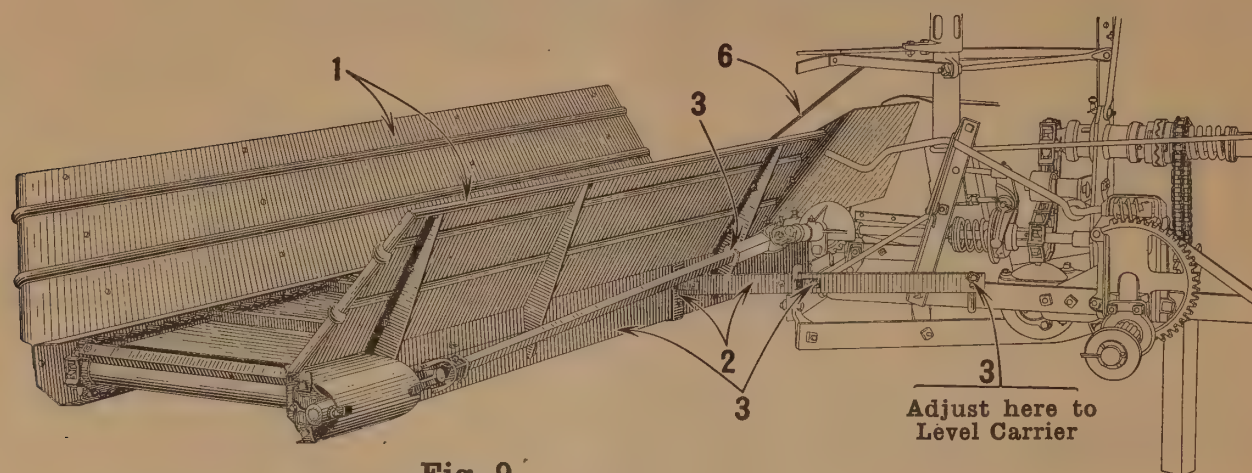

Fig. 9
1. (Fig. 9.) Bolt sides to carrier bottom.
2. (Fig. 9.) Secure support beam in Carrier—with bracket at rear end of beam.
3. (Fig. 9.) **To attach Carrier:** Remove hook and bracket from front end of carrier support beam.
6. (Figs. 9 and 10.) Hook Bundle Carrier support rod into crossbar at L. H. end of Carrier and cotter opposite end to bracket on Binder Attachment Frame.